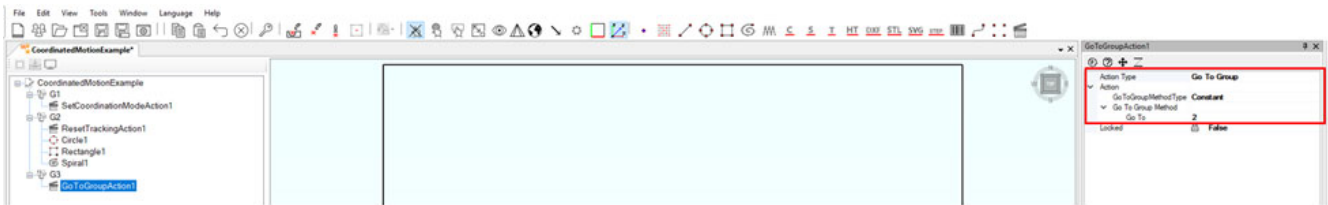

Figure 320: Go To Group Action Control
8. Within Group 3, create an Action Control and configure it to be a "Go To Group" type. The Method Type should be set to "Constant" and the Go To value should be the Group ID of the Group containing the Reset Tracking Action Control and the Process Objects (G2 in this example). See Figure 320 on page 296.